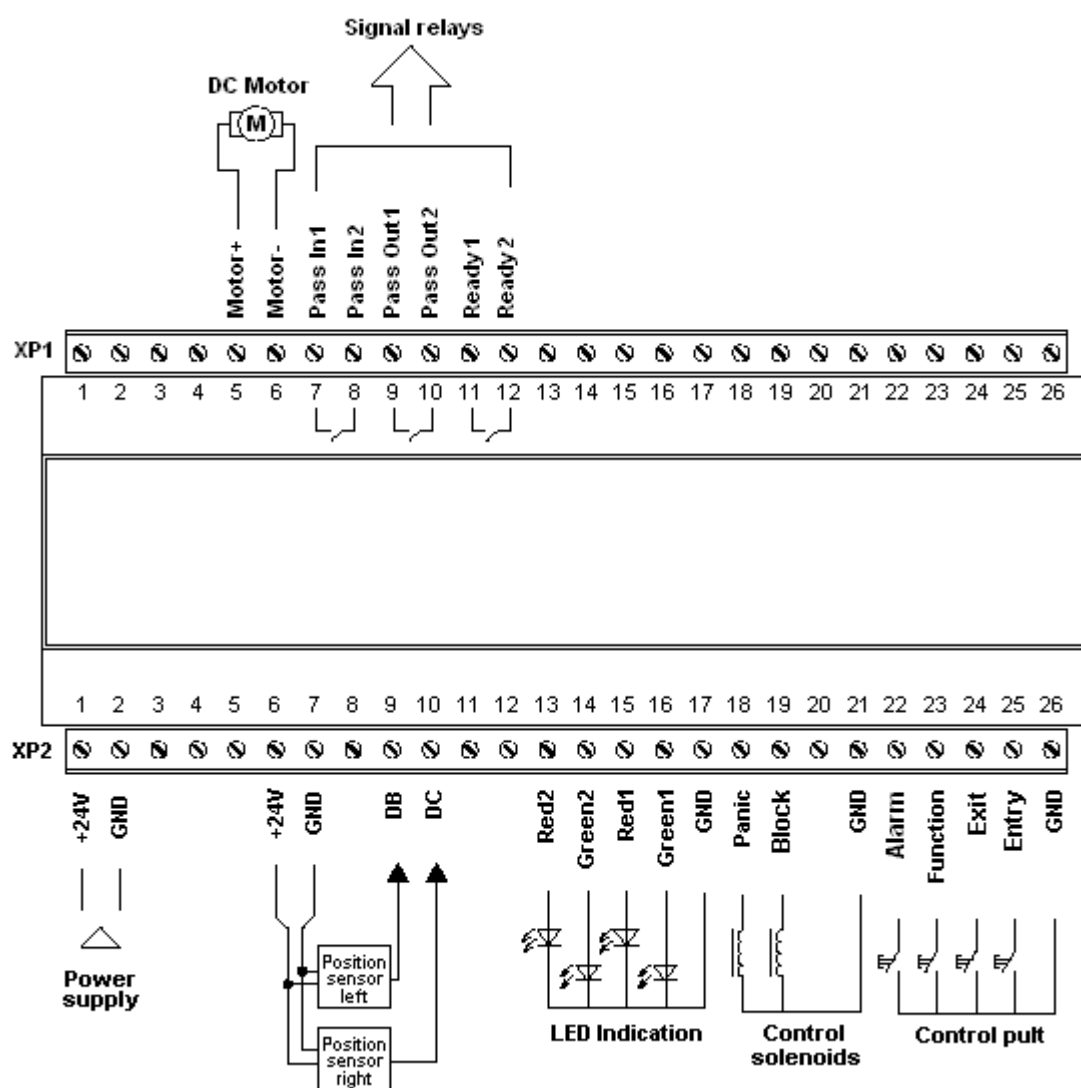
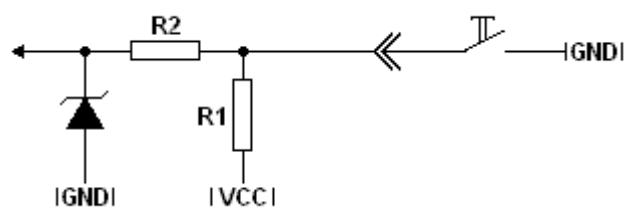

Figure 8 – Turnstile's Controller - Scheme of connections
Figure 9 – scheme of controlling input
Controller connection scheme is shown at Figure 8. The following devices are connected to the controller:
Corresponding scheme of control inputs (XP2, contacts 22-25, Fig. 8) is shown on Figure 9.
- Connect all the cables: power, remote control, external ACS controller, as in accordance to Fig. 8 or Fig 10.